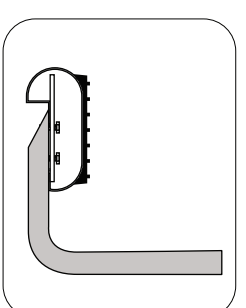

FIG 2a
- 1) Place clamp brackets on main bracket, turn 90 degrees to the main brackets. Place 5/16" hex bolt through top of bracket clamp in oblong hole to center hole in main bracket, placing 5/16" flange nut on bottom side. Fig 2a